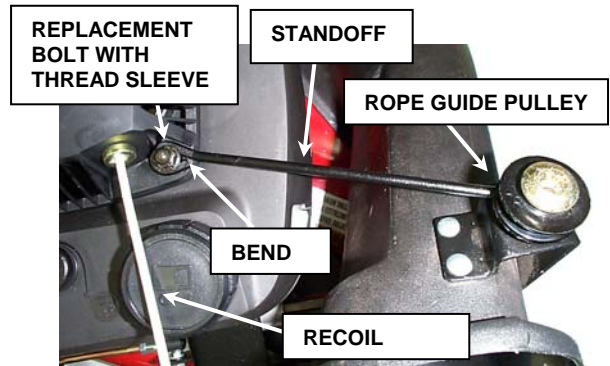

FIGURE 2.10
STEP 1a (Kawasaki only): Attach Bag Adapter Standoff between rope guide pulley assembly and engine recoil. See Figure 2.10.
STEP 2: Route recoil rope around recoil rope pulley on bag adapter. See Figure 2.10. **NOTE:** Pulling Blade control against upper handle will allow extra recoil slack.